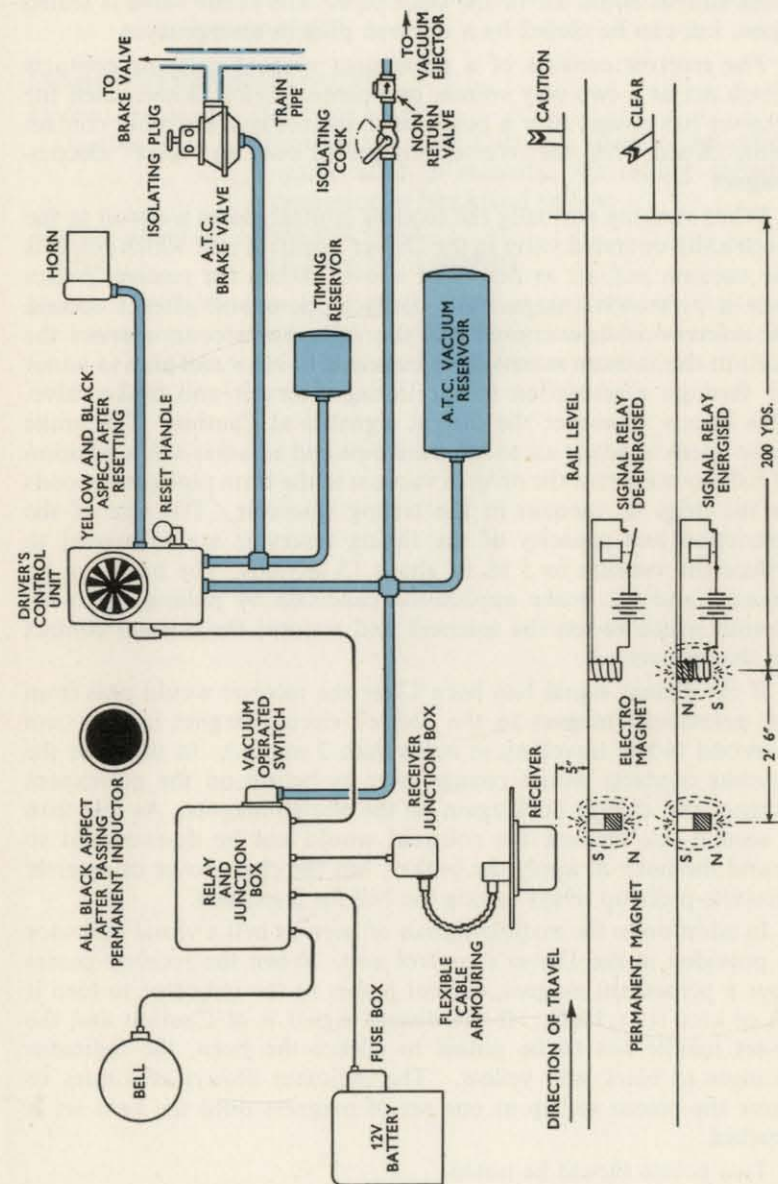

Fig. 89 AUTOMATIC TRAIN CONTROL
- (c) The British Railways system (Fig. 89).